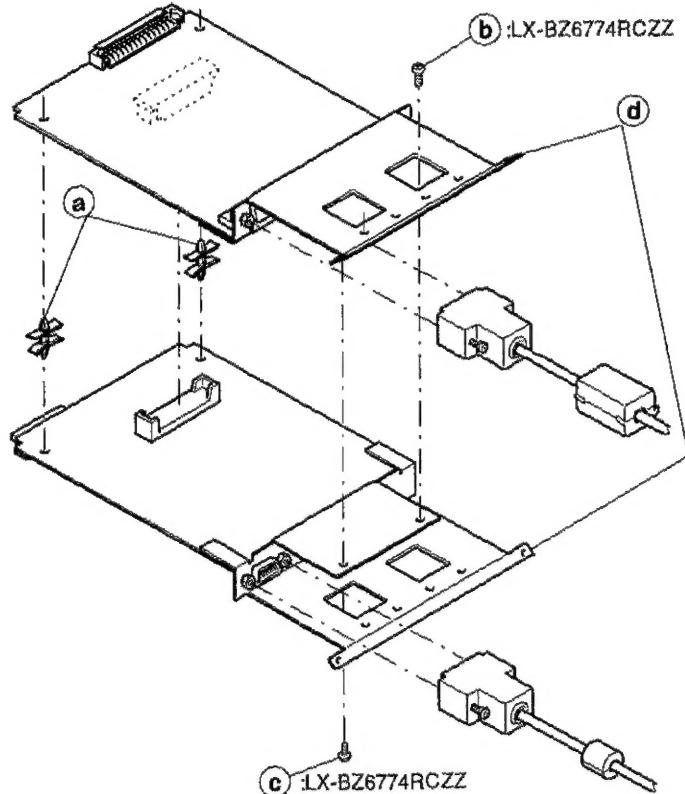

Fig. 3
- ① Insert two spacers ④ and connect the connectors of the interface PWB together (Fig.3).
- ② Secure the brackets ③ with the screws ⑤ and ⑥ (LX-BZ6774RCZZ: Self tap screw).